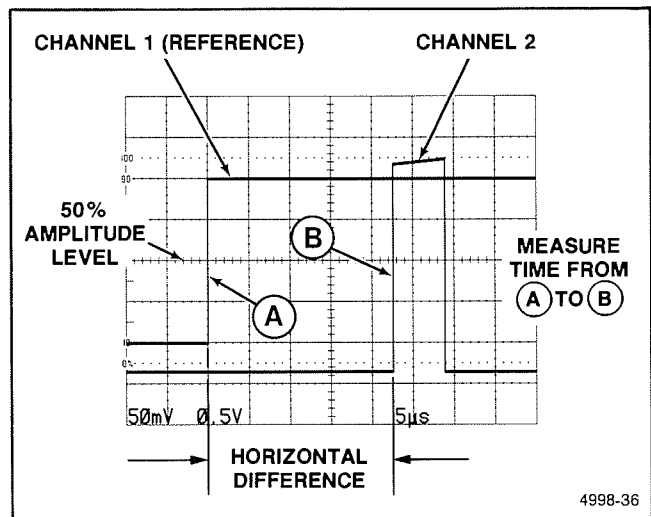

Figure 6-23. Time difference between two time-related pulses.
8. Set the A SEC/DIV switch to a sweep speed which provides three or more divisions of horizontal separation between the reference points on the two displays. Center each of the displays vertically (see Figure 6-23).